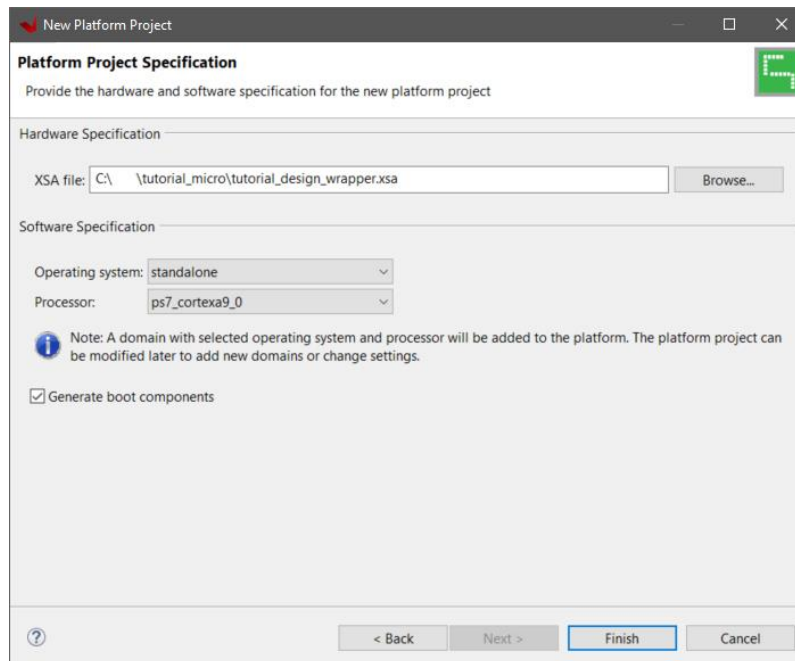

Figure 24
7. In the new **Platform Project Specification** page, navigate to the folder where the XSA file **tutorial_design_wrapper.xsa** was created in Vivado to add it (Figure 24)